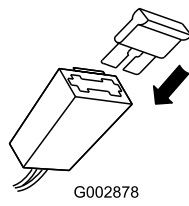

Figure 38
2. Replace the fuse in the fuse holder (Figure 38).